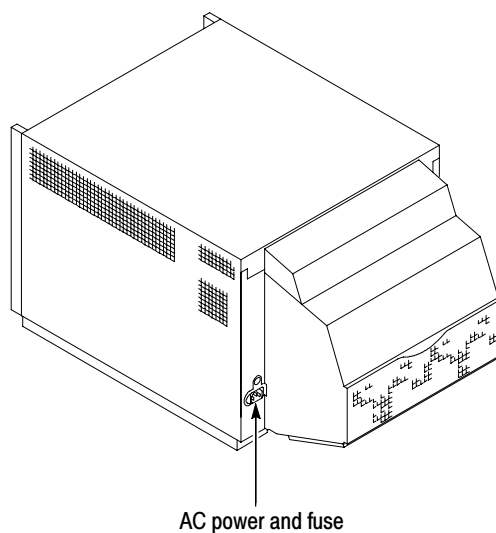

Figure 18: Line fuse and power cord connector locations
2. Connect the power cord. See Figure 18 on page 19.